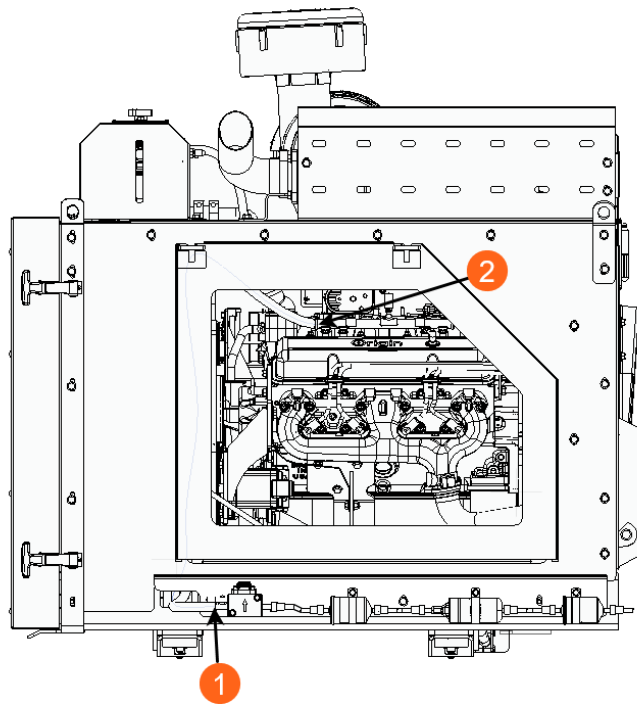

Figure 3
- 4) Using the quick disconnects, detach the insulated tube from the block manifold and the engine. Draining fuel into an appropriately rated container. See Figure 3